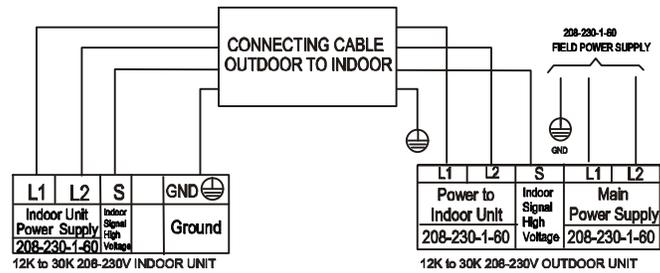

Fig. 26 – Connection Diagrams
2. Connect wiring from the outdoor unit per the connection diagram (see Fig. 26).